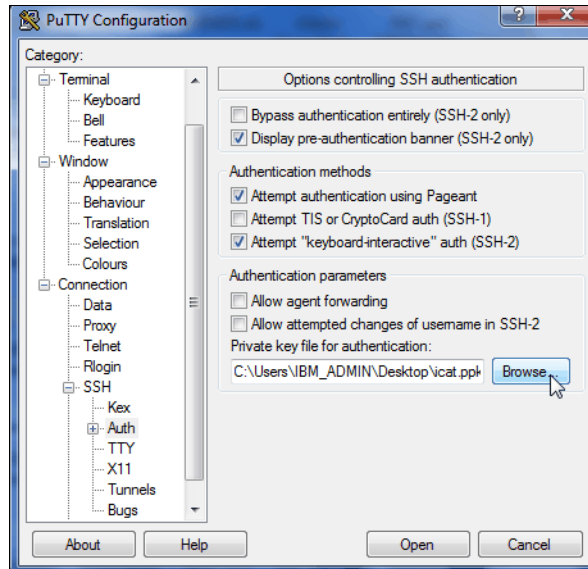

Figure A-11 SSH authentication
- From the Category pane on the left side of the PuTTY Configuration window, click **Connection** → **SSH** → **Auth**. As shown in Figure A-11 on page 581, in the right pane, in the “Private key file for authentication:” field under the Authentication Parameters section, either browse to or type the fully qualified directory path and file name of the SSH client private key file created earlier (for example, C:\Support Utils\PuTTY\icat.PPK).